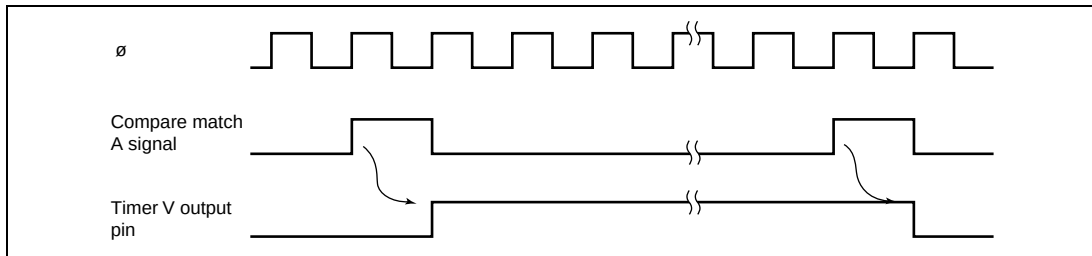

Figure 10-6 TMOV Output Timing
4. When a compare match A or B is generated, the TMOV responds with the output value selected by bits OS3 to OS0 in TCSR.V. Figure 10-6 shows the timing when the output is toggled by compare match A.